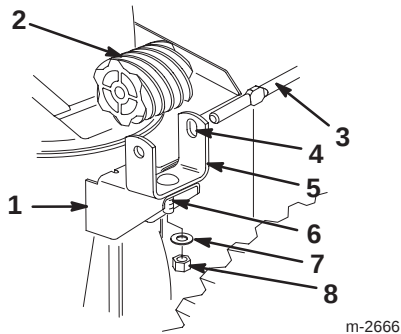

Figure 15
- Insert the carriage screw into the worm gear bracket mounting hole (Fig. 15).
- Position the worm gear into the bracket, align the slotted holes in the worm gear and the bracket, and insert the chute gear rod through the slotted holes in the bracket and the worm gear (Fig. 15).
- Loosely mount the worm gear and the bracket to the mounting flange with a carriage screw, a flat washer, and a locknut (Fig. 15).